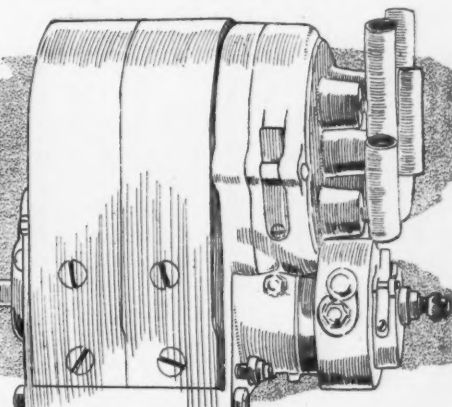

FIG. 17—KINGSTON HIGH TENSION
**Kingston**—The placing of the condenser within the magneto is the principal change on the Kingston model B high-tension magneto. The condenser in previous models was placed in the coil box on the dash, but the coil this year is of the tubular type and is placed behind the dash. The entire magneto is covered thus making for a waterproof device. The Kingston is shown in Fig. 17. Besides the model B the manufacturer of Kingston apparatus makes a varied assortment of magnetos of the make-and-break type for use on stationary engines and on motor boats.